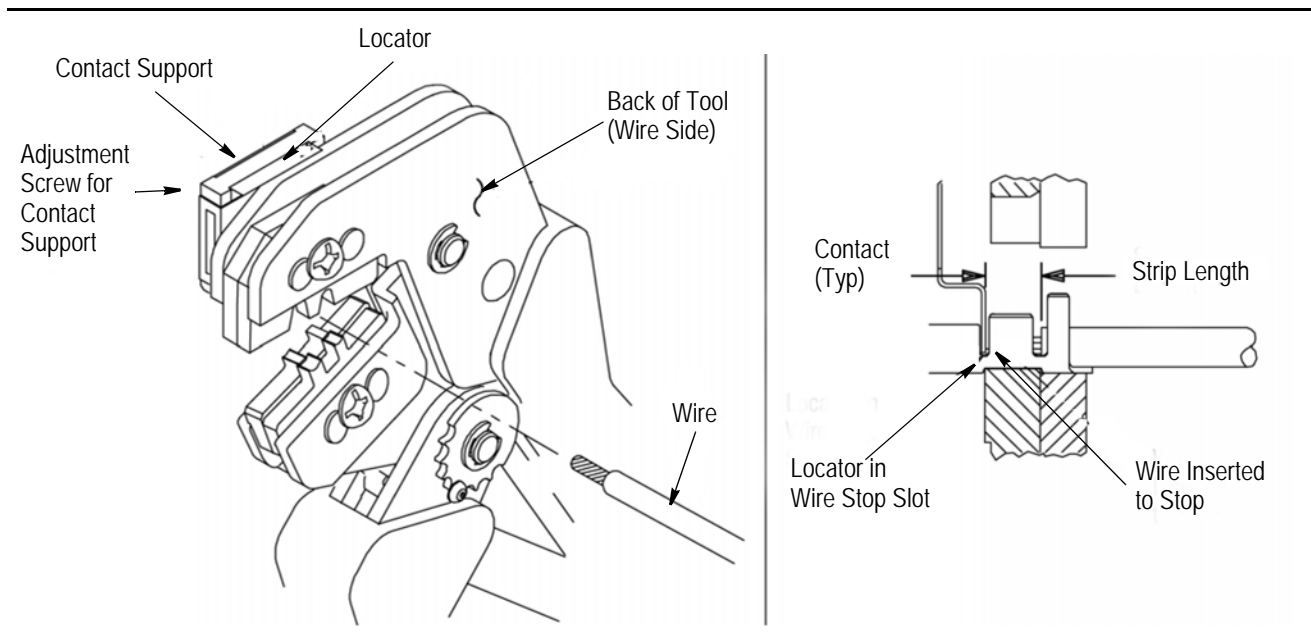

Figure 3
**NOTE** *The contact support is preset prior to shipment, but minor adjustment may be necessary. Refer to Figure 3.*
Refer to the table in Figure 1 and select wire of the specified size and insulation diameter. Strip the wire to the length indicated in Figure 1, taking care not to nick or cut wire strands. Select an applicable contact and identify the appropriate crimp section according to the wire size markings on the tool. Refer to Figure 3 and proceed as follows:
3. Position the contact so that the mating end of the contact is on the locator side of the tool, and so that the open “U” of the wire and insulation barrels face the top of the tool. Place the contact up into the nest so that the movable locator drops into the slot in the contact. Refer to Figure 3. Butt the front end of the wire barrel against the movable locator.
5. Insert stripped wire into contact insulation and wire barrels until it is butted against the wire stop, as shown in Figure 3.
**NOTE** The crimped contact may stick in the crimping area, but the contact can be easily removed by pushing downward on the top of the locator (see Figure 3).